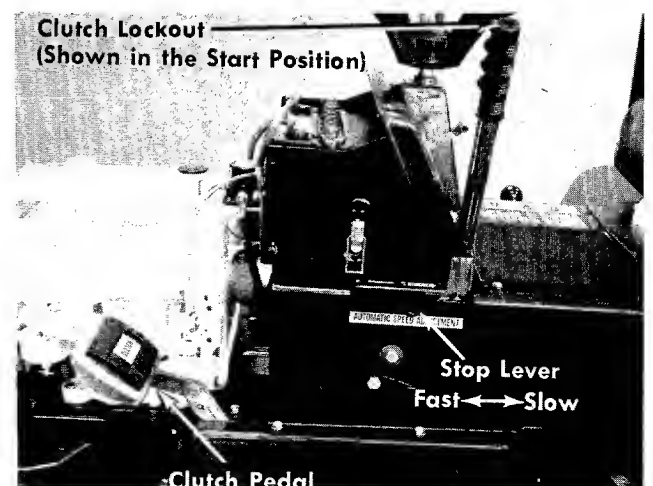

FIGURE 10. LEFT HAND CONTROLS
e. **Clutch Pedal.** The clutch pedal is used to disengage the drive mechanism. Depressing the clutch pedal at any time will reduce mower speed. If depressed all the way, it will stop the mower. See figure 10.
f. **Clutch Lockout.** When the clutch pedal is depressed all the way it can be locked by placing the clutch lockout in the START position as shown in figure 10. The clutch locknut must be in this position before the engine will start.
g. **Stop Lever.** The stop lever allows you to regulate the maximum ground speed of the riding mower by setting the stop lever in any one of the five settings. The farther forward the stop lever is set, the faster the ground speed. See figure 10.
- Step 2. Place the clutch lockout in the START position. See figure 10.